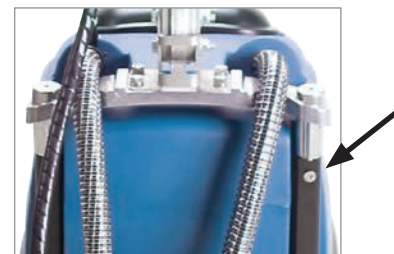

Fig 1
- Unscrew the bolts that fasten the tank to the handle support (Fig 1).